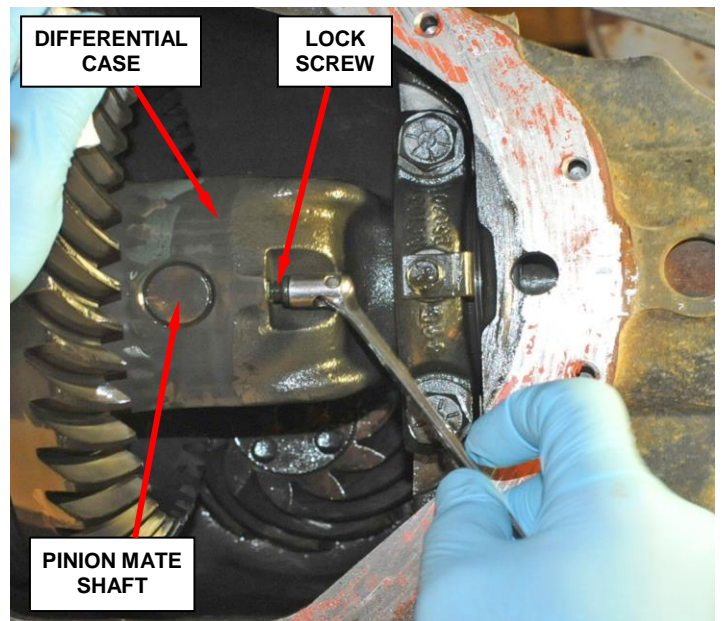

Figure 6 – Remove Lock Screw and Pinion Mate Shaft
- b. Rotate the differential case so pinion mate shaft lock screw is accessible (Figure 6).
- c. Remove and save the lock screw and pinion mate shaft from the differential case (Figure 6).